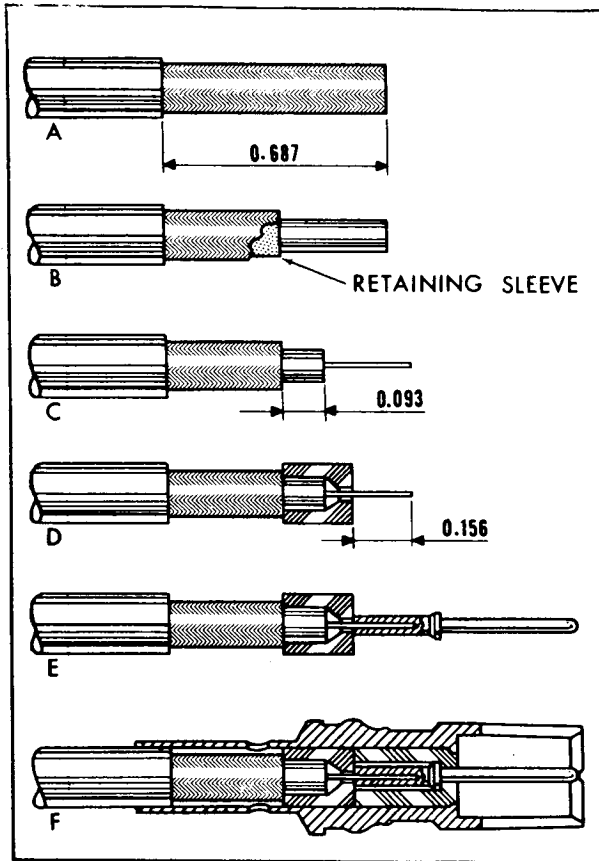

Figure 2-2. Contact Assembly Steps.
a. Remove 0.687 inch (11/16") of cable outer sheath from end of cable (A, figure 2-2). Hot wire stripping is recommended to avoid cutting or nicking inner conductor.
b. Expand outer conductor (braid) and slide retaining sleeve under braid until it bottoms against edge of outer sheath (B, figure 2-2).
d. Measure 0.093 inch (3/32") from end of braid and strip remaining cable core from inner conductor (C, figure 2-2). Hot wire stripping is recommended.
e. Position back insulator onto cable, large ID first (D, figure 2-2). Butt back insulator against retaining sleeve, catching ends of braid between insulator and sleeve.
g. Install inner contact on inner conductor and butt back end of contact against back insulator (E, figure 2-2).
i. Position front insulator over crimped contact and slide assembly into contact sleeve (F, figure 2-2). Make certain outer conductor is visible in inspection hole.